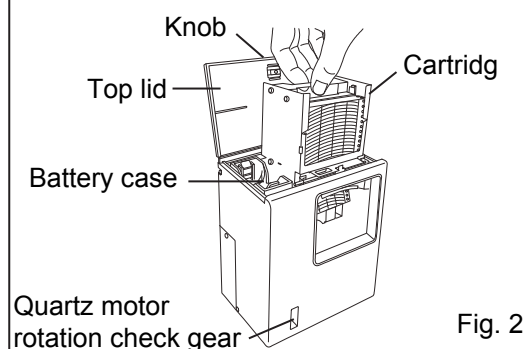

Fig. 2
2. As shown in the Fig. 2, remove 6 fixing screws on the control box and remove the control box cover.
2. Pull the cartridge up after opening the top lid. The lid can be opened by turning the knob counterclockwise. See Fig. 2.
3. Press both sides of the pen arm as indicated by the arrows to open the head clamp at A and B. (See to Fig. 2 illustration 1)
4. Position the ink pen so that the guide pins fit into the guide holes on the pen arm. (See to Fig. 2 illustration 2)
5. Press the two sides of the head clamp as indicated by the arrows to secure the ink pen. (See to Fig. 2 illustration 3) From the side view, the cartridge should fit perfectly on the arm. Confirm that the pen arm is attached to both sides of the ink pen.